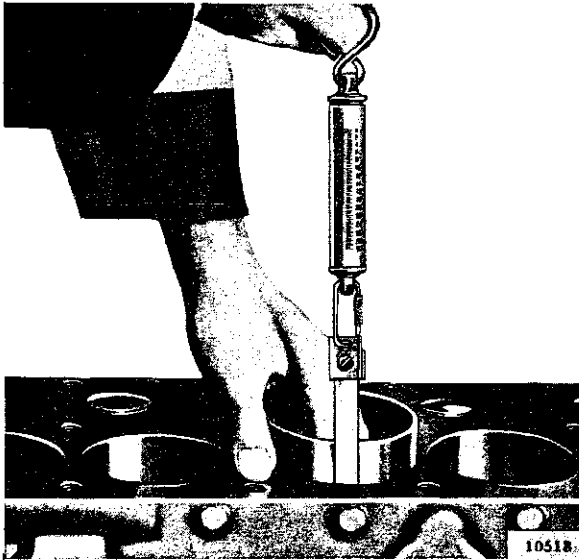

FIG. D-7—PISTON FITTING
a. After cylinder bores have been carefully checked for out-of-round and taper (Par. D-35), check fit of each piston to cylinder bore with block and pistons clean and dry and at approximately 70°F. [21°C.] by using Piston Fitting Gauge And Scale Tool No. C-690 as shown in Fig. D-7. Use a .003" [0,0762 mm.] thickness gauge 3/4" [19 mm.] wide. The piston is fitted upside down in the block to facilitate the operation. The gauge must extend the full length of the piston on the thrust side (opposite side from slot in piston skirt). Scale should register 5 to 10 pounds [2,3 a 4,5 kg.] pull to remove the thickness gauge from between cylinder wall and piston. Excessive pull indicates need for a slightly smaller piston or additional honing of cylinder. Insufficient pull indicates need for fitting a larger piston.